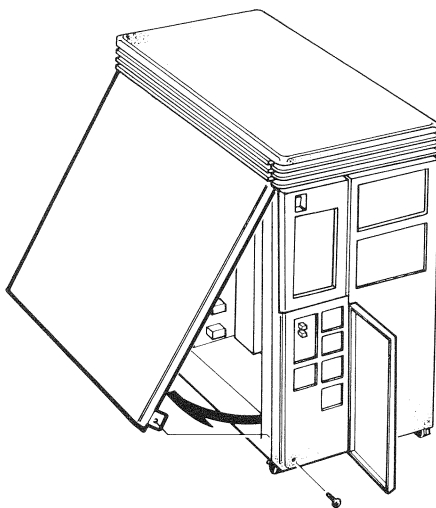

Figure 10-4 Left-Side Panel Unhooking
3. Loosen the screw that connects the left-side panel to the front of the enclosure frame (Figure 10-4).